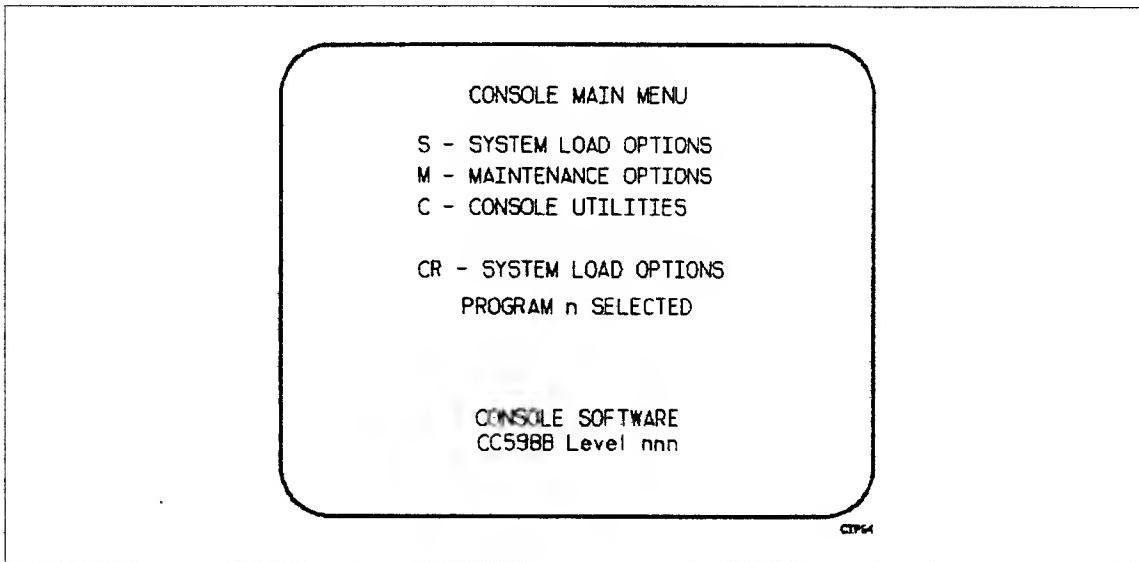

Figure 3-3. Console Main Menu (Dual IOU Systems)
- 1. Complete the following steps to bring up the CONSOLE MAIN MENU (figure 3-3).
- 1. Execute the following steps on your CC598B console to bring up the CONSOLE MAIN MENU (figure 3-3).